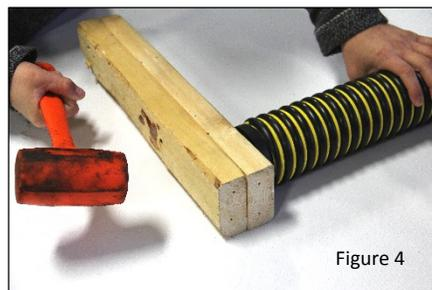
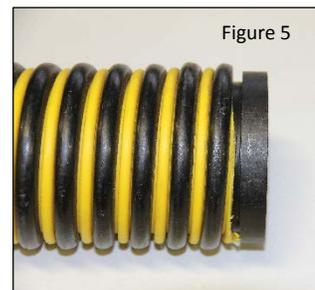

Figure 4
Figure 5
5. Install the end cap at the cut end of the Kelso Eduction Tube. Once installed the end cap cannot be removed. Insert the cap into the flexible section, use a block and hammer to drive the end cap into the tube (Figure 4). The end cap should be fully inserted in the flexible portion of the eduction tube (Figure 5).